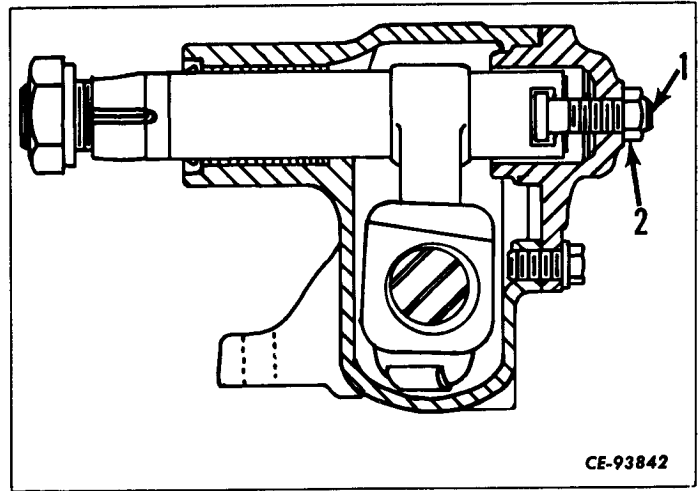

Figure 8-17
Loosen the locknut (2, Fig. 8-17) and turn the lash adjuster screw (1) all the way in (clock-
d. Turn lash adjuster screw (1, Fig. 8-17) clockwise to remove lash from gear teeth and tighten locknut (2).